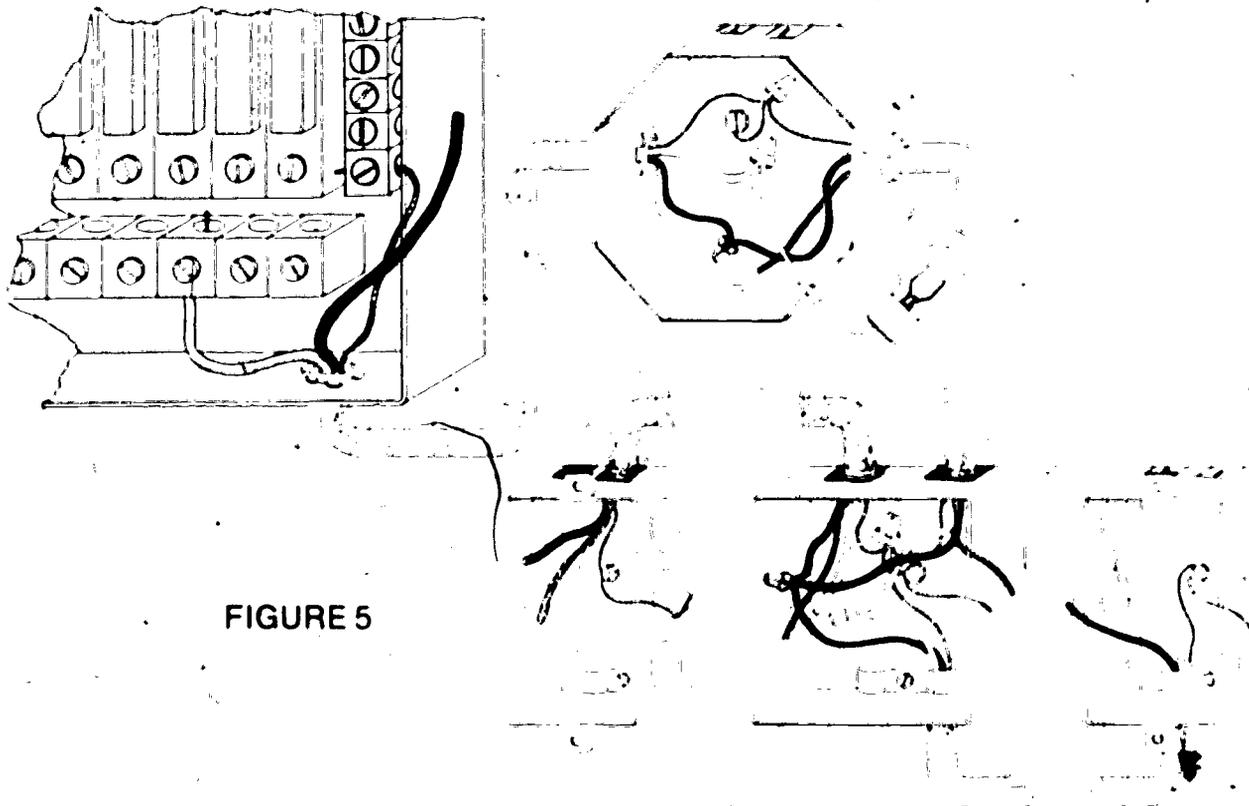

FIGURE 5
L. Connect switch leg through the system (Figure 5)